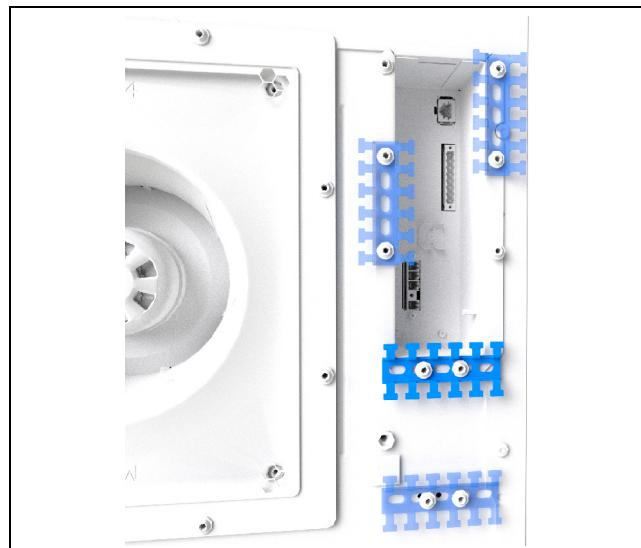

Fig. 19: Attach the T-rail (example illustration)
- The cable shield can make contact with the T-rail (fig. 19).